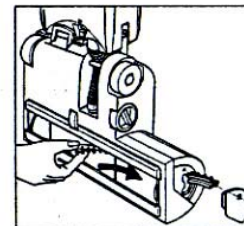

Figure 10
5.4 Replacing the brush strip <Figure 10>